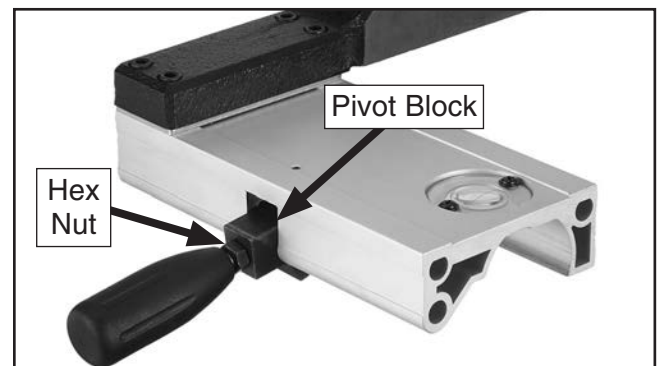

Figure 25. Example of handle installed on fence assembly.
12. Install (1) M8-1.25 hex nut on fence handle, then thread handle into fence assembly, as shown in **Figure 25**. Tighten hex nut against fence pivot block to secure handle.